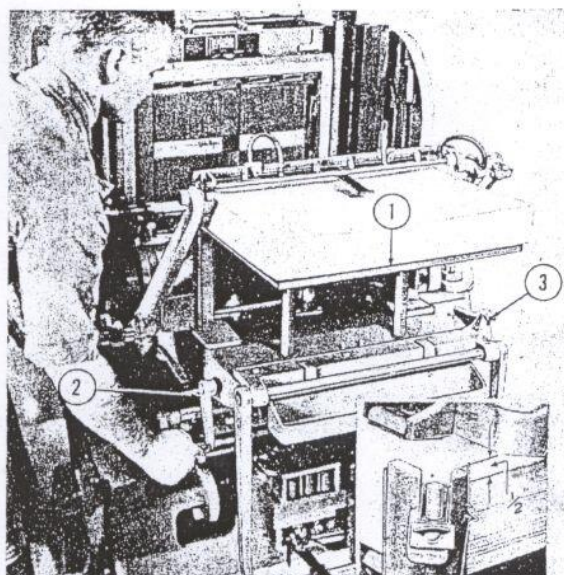

Figure 13—Setting Pile Height
(2) HOW TO SET FEEDER TABLE FOR PILE HEIGHT.—The feeder pile table (1) figure 13, may be raised or lowered manually by means of the feeder table pile adjusting crank, (2) figure 13. Push crank in and turn clockwise to raise, and counter-clockwise to lower.
with sheet front corners positioned in front pile guides, raise table until top sheet is $\frac{1}{2}$ " below top of front pile guides (see insert in figure 13). After height of pile is set, pull out adjusting crank, thereby locking table for automatic raising. If necessary to change pile height, an adjustment screw is provided as shown at 18 in figure 3.
pile table (in this case the guides must be interchanged), the guides may be positioned to accommodate any sheet size (within the range of the V-50) except post card size. For maximum sheet sizes it may be necessary to change the setting of the rear corner pile guide bracket (3) by adjusting the bracket stop stud (see (3) in figure 13) against which the right side bracket bears. For post card size sheets, a special guide is supplied for attaching to the corner pile guide rod. For convenience in loading the pile table, the corner pile guide rod bracket may be lowered out of operating position (see figure 13).